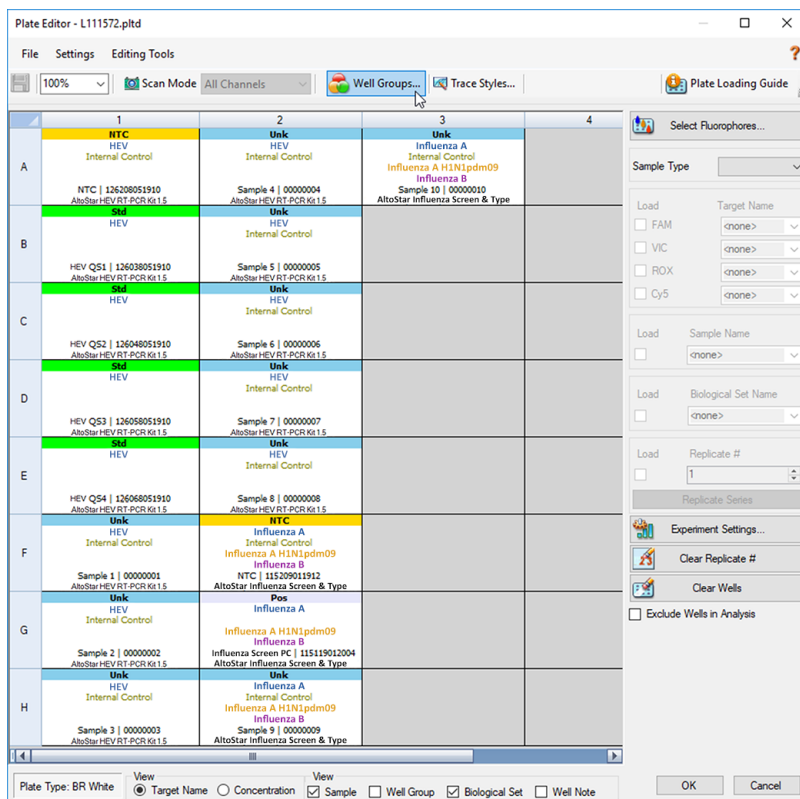

Figure 1: Plate Editor dialog
1. In the Data Analysis window click the **Plate Setup** button in the tool bar and select **View/Edit Plate**. The Plate Editor dialog is displayed (see figure 1).